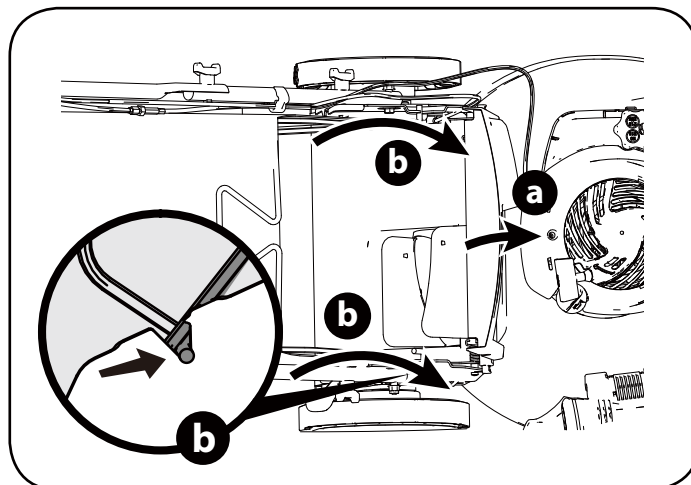

Figure 8
- b. Place grass catcher into the slots in the handle brackets. Let go of the rear discharge door so that it rests on the grass catcher. (Figure 8)